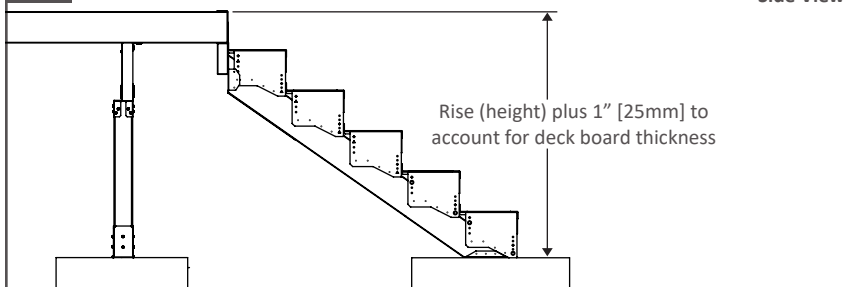

Fig. 92
4. Input measured rise into the stair calculator “Rise and Tread: Total Rise” section. As shown in Fig. 92.